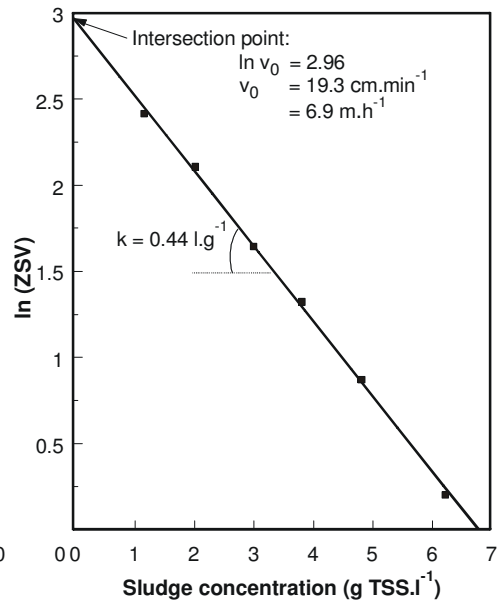

Figure 6.3
- (5) Plot the values of $\ln(\text{ZSV})$ as a function of the sludge concentration as demonstrated in Fig. 6.3 and draw the best-fit straight line through the data points;
- (6) Use Fig. 6.3 to determine the value of the constants: k is equal to the gradient of the straight line ($\Delta Y/ \Delta X$) and v_0 is equal to the intersection of the straight line with the vertical axis. In this example $k = 0.44 \text{ l}\cdot\text{g}^{-1}$ and $v_0 = \exp(2.96) = 19.2 \text{ cm}\cdot\text{min}^{-1} = 6.9 \text{ m}\cdot\text{h}^{-1}$.